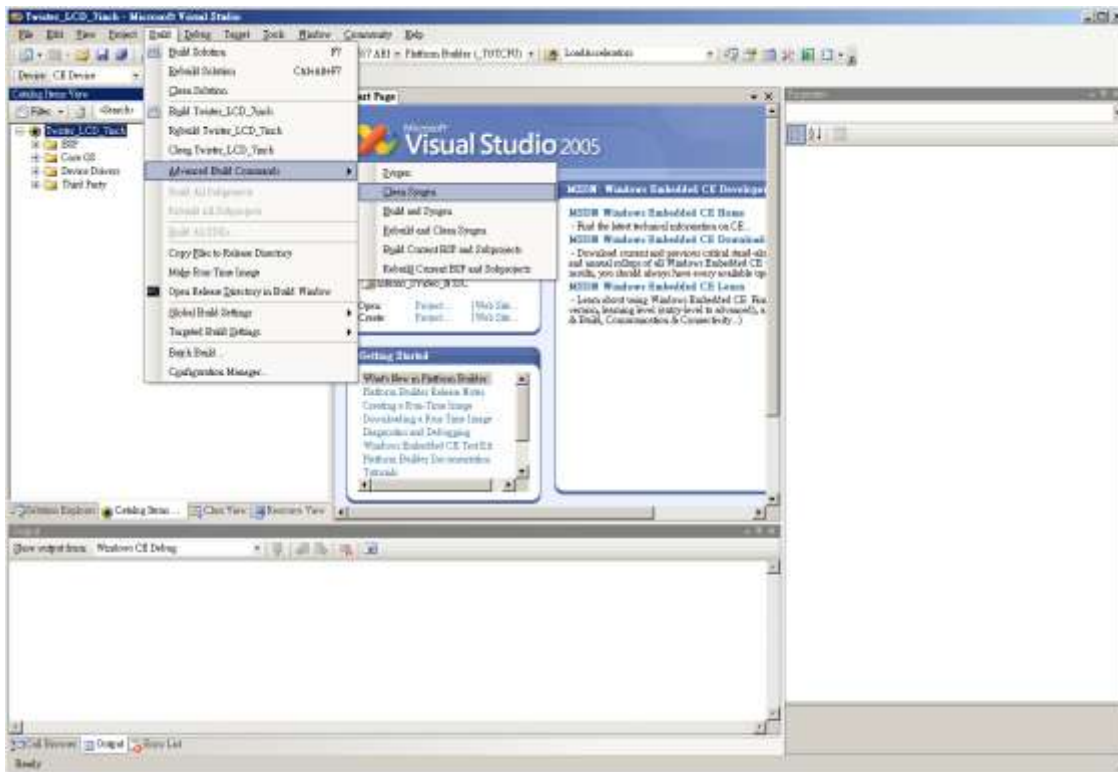
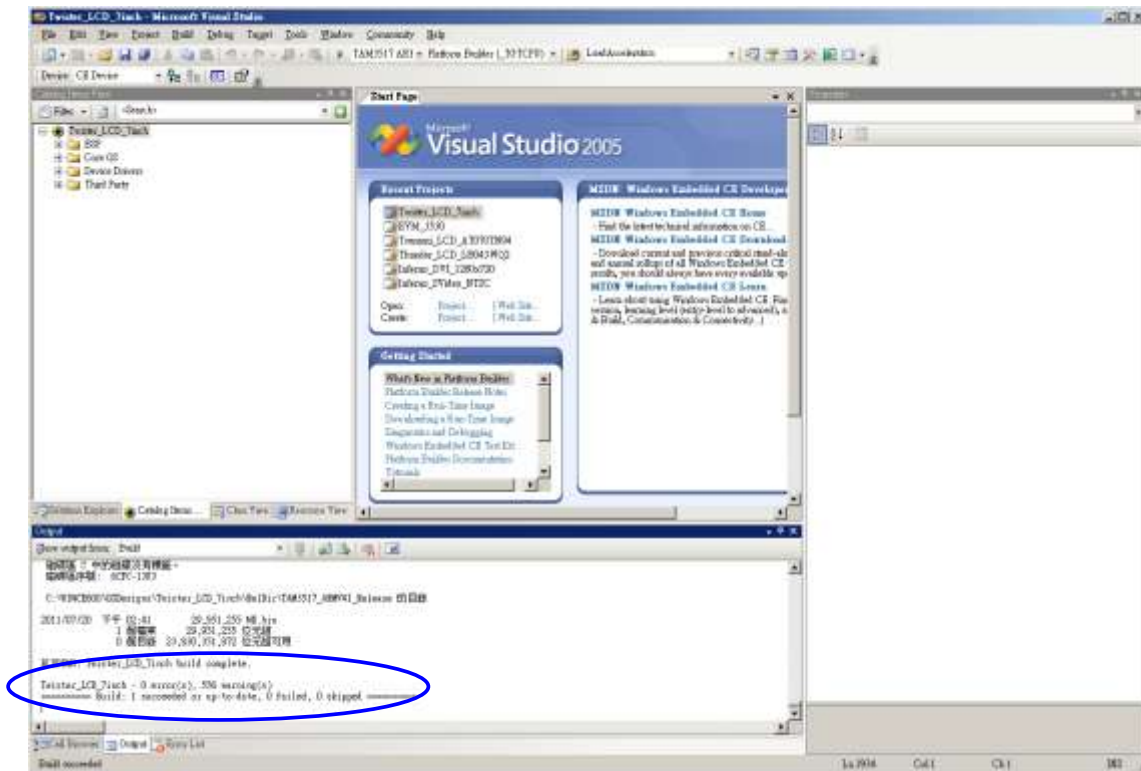

Figure 76
Figure 77
- In the menu click “build/advanced build command/Clean Sysgen” (See Figure 76) This will take approximately 20 minutes, after which you will see “build complete” (see Figure 77)